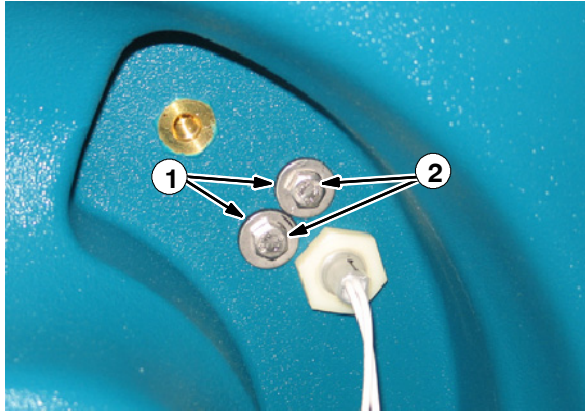
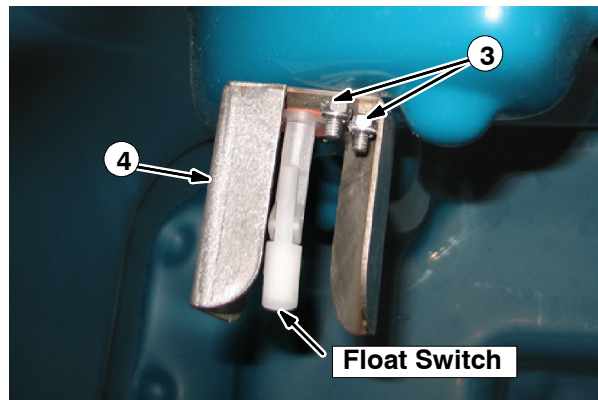

FIG. 3
FIG. 4
6. Use two hex screws (2), sealing washers (1), and hex nuts (3) to install the float switch protector bracket (4) in the recovery tank. Note location of sealing washers (1) **outside** the recovery tank. Refer to Fig. 3 and Fig. 4.